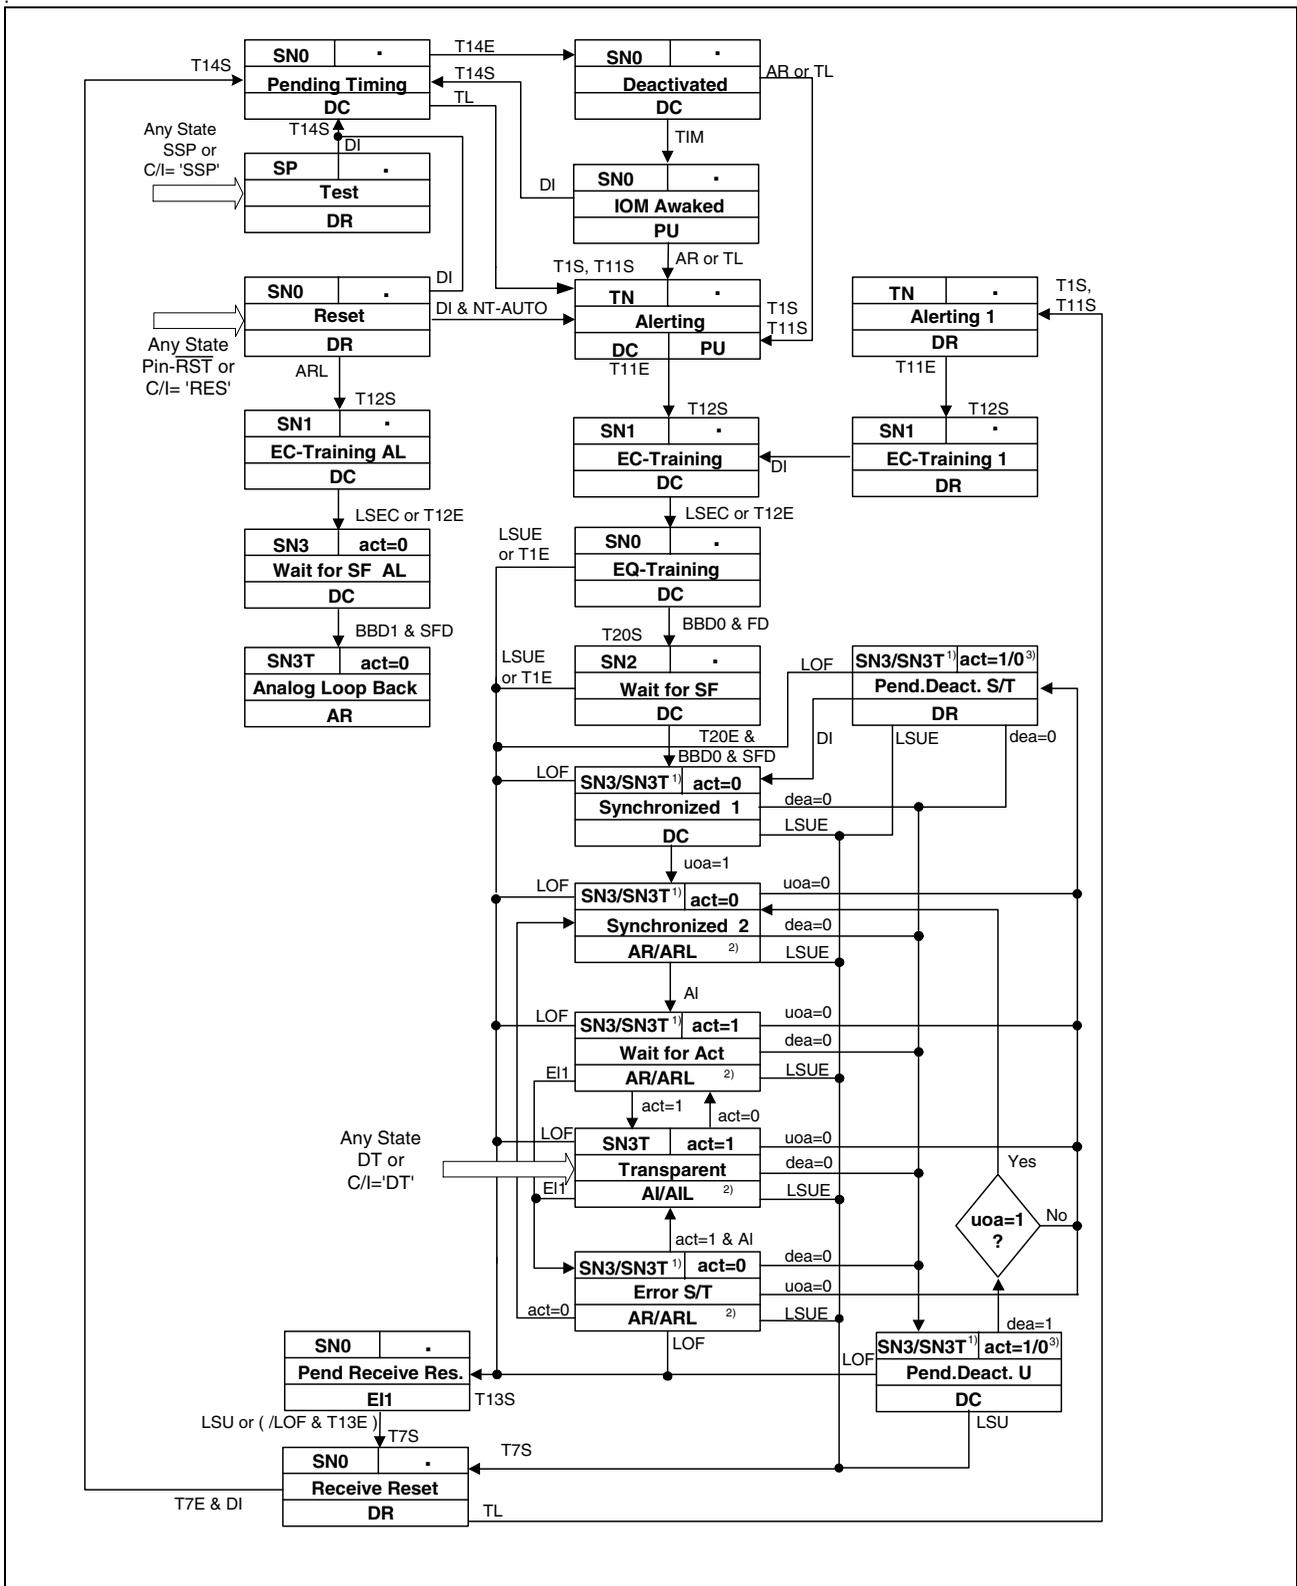

Figure 10 Standard NT State Machine (IEC-Q / NTC-Q Compatible) (Footnotes: see “Dependence of Outputs” on Page 26)
- Outputs denoted with 1) in Figure 10: